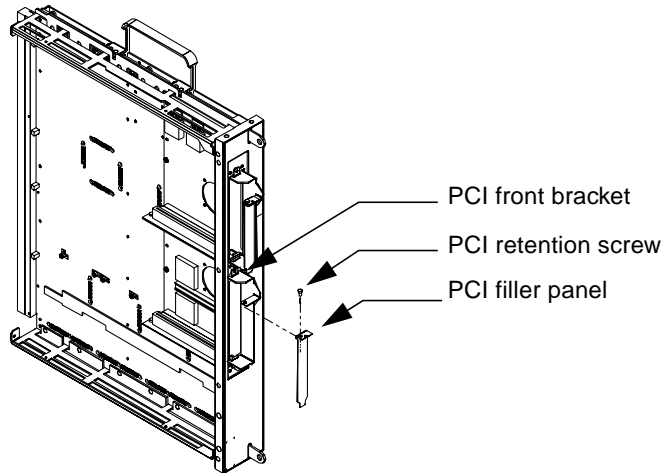

FIGURE 11 PCI Filler Panel Installation
5. If the PCI card is not immediately replaced, install a filler panel (part number 240-2391-01) onto the PCI front bracket using the PCI retention screw (FIGURE 11 on page 11).
2. If a filler panel covers the PCI slot, remove the PCI retention screw on the mating flange to remove the filler panel (FIGURE 11 on page 11).